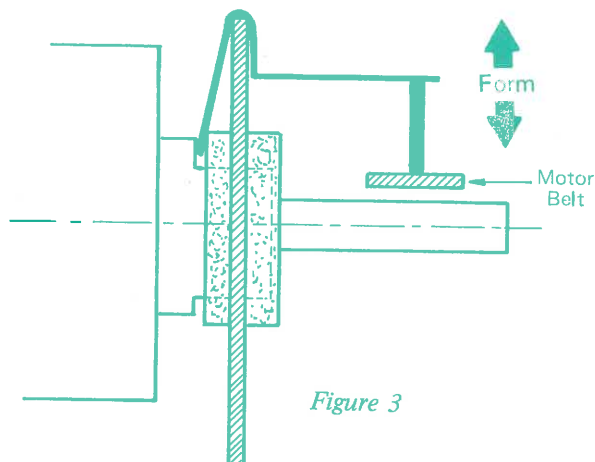

Figure 3
- 7) Center Static Elimination Follower in the middle of motor belt, by forming horizontal lug of Static Elimination Bracket (see figure 3).